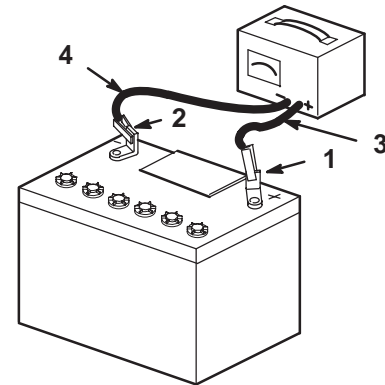

Figure 5
9. When the battery is fully charged, unplug the charger from the electrical outlet, then disconnect the charger leads from the battery posts (Fig. 5).